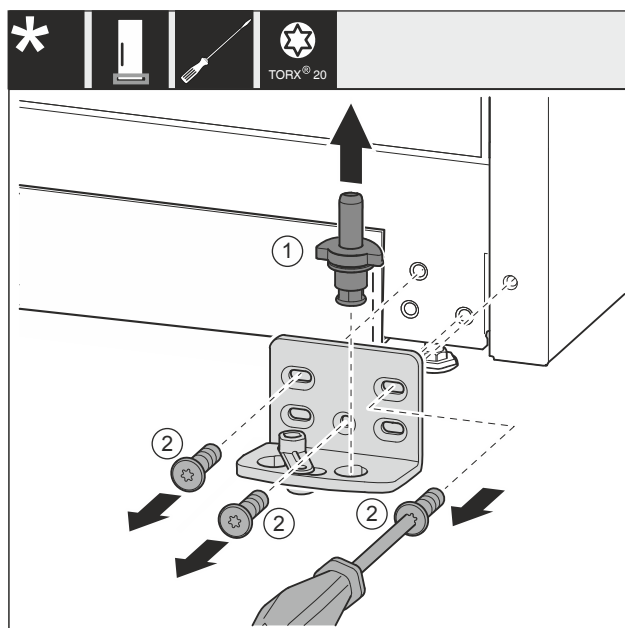

Fig. 33 \*
- ▶ Pull the bearing bolt Fig. 33 (1) out upwards completely.\*
- ▶ Use screwdriver to unscrew the screws Fig. 33 (2) and remove the swap bearing block.\*